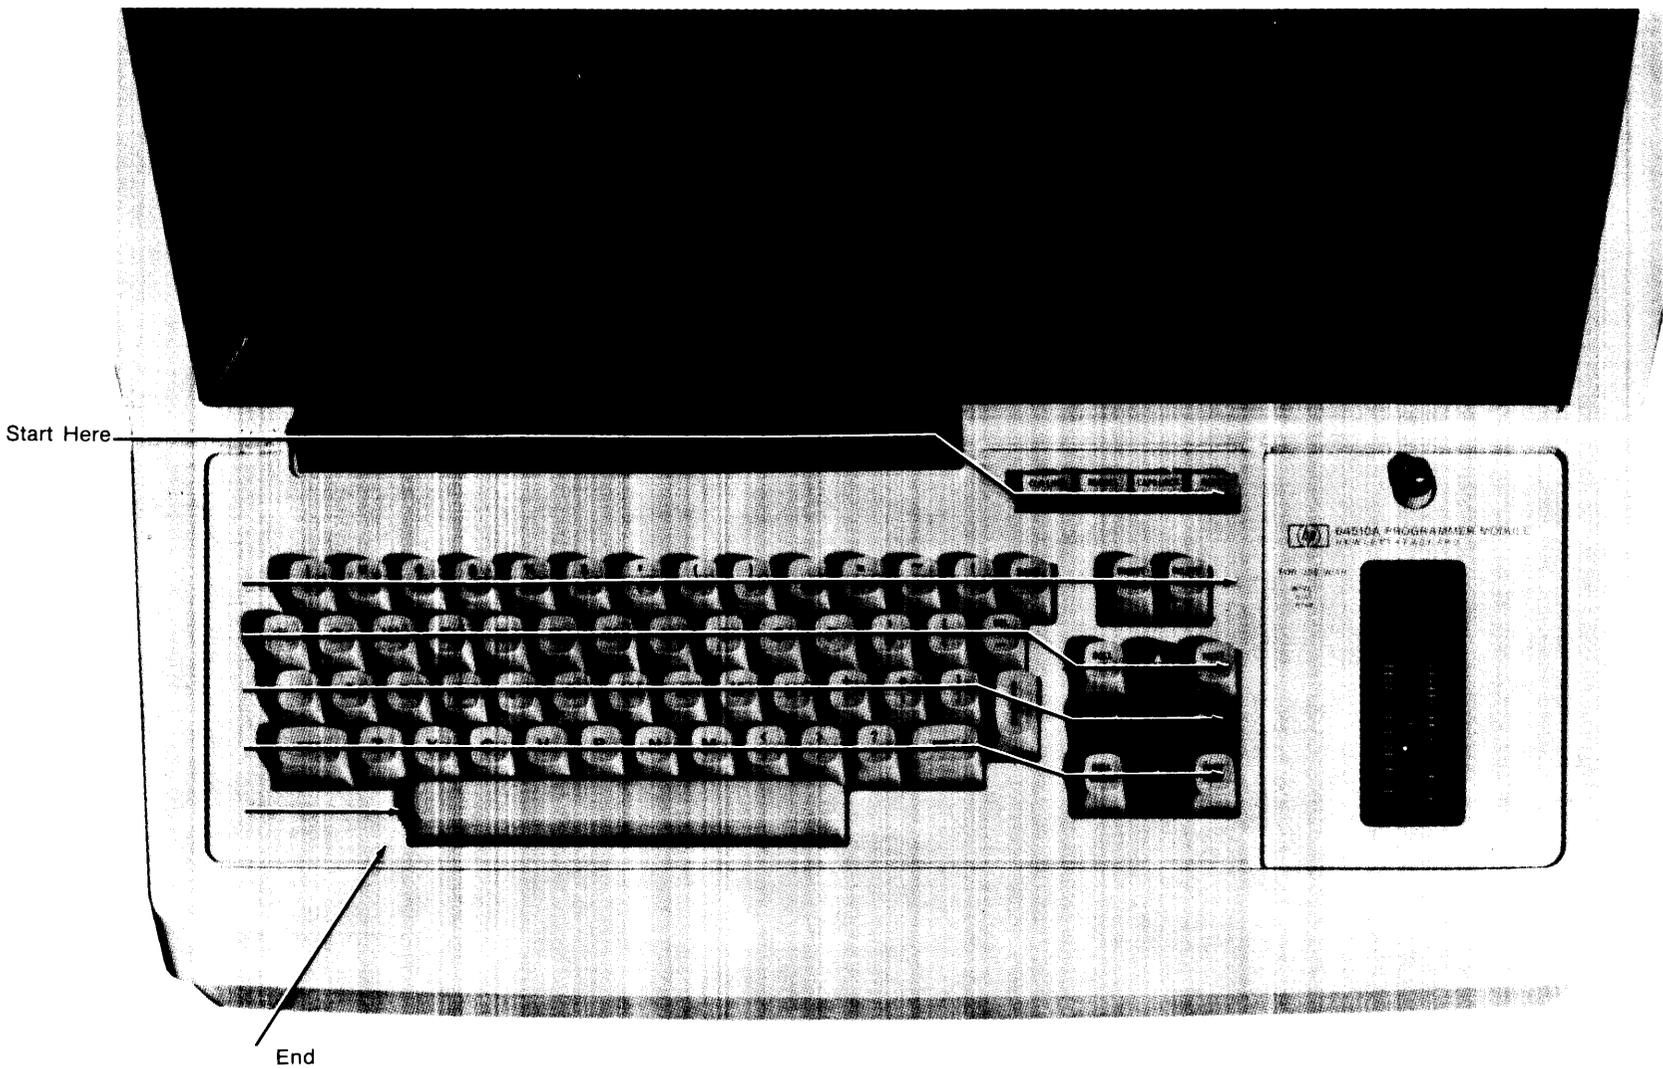

Figure 2-19. Keyboard Test Sequence
H. Purpose: Verifies the functional operation of all front panel keys. Press next test until kybrd test is in inverse video. Press the key in the sequence shown in figure 2-19, on the following page. If a key is pressed out of sequence or if two keys are pressed at the same time, a "kybrd failed" message will be displayed on the CRT. If the keys are pressed in sequence and all passed, a " " message will be displayed on the CRT. If a true keyboard failure is encountered, refer to the Mainframe Service Manual.